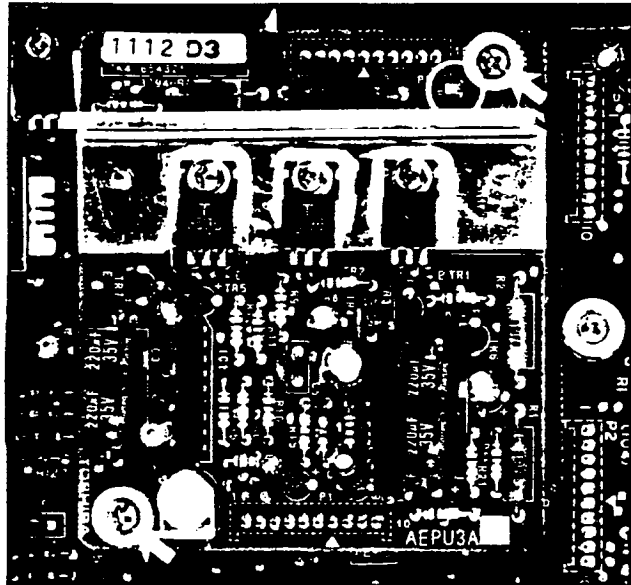

FIGURE 11—MOUNTED AEPU
shown in Figure 11. Mount the PCB on the 10-pin connectors P5 and P6 (note the "V" arrow on the AEPU and pin alignment when positioning the PCB) and secure it with the two screws provided (Figure 11).
07.32 Note the location of the volume control in Figure 11. It will be necessary to leave the MKSU cover off until this has been adjusted per Paragraph 11.30.